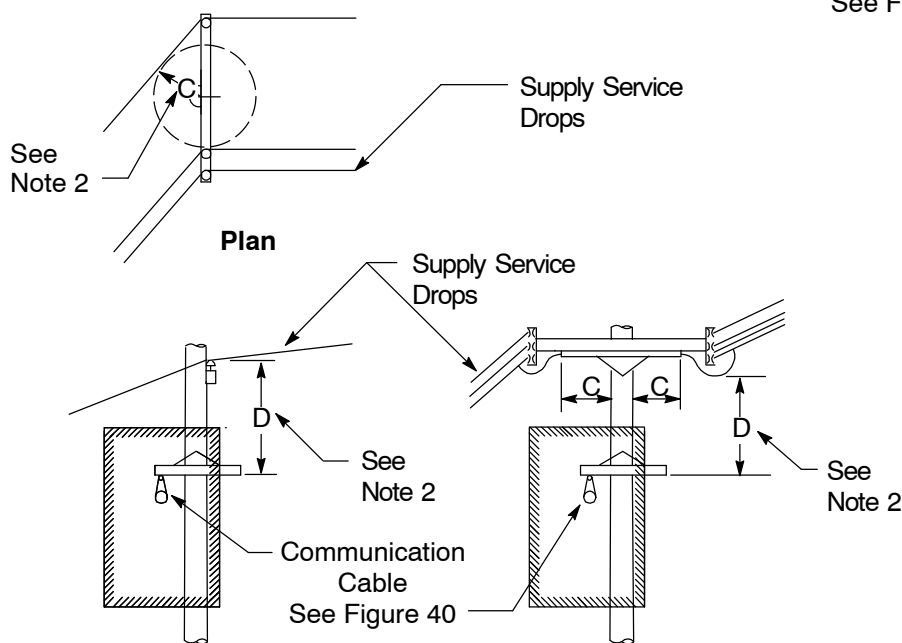
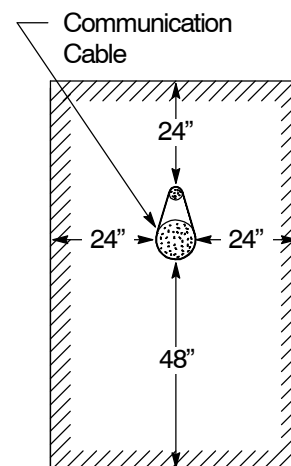

Figure 38
Figure 40
2. In Figure 38, Figure 39, and Figure 40, Dimension D may be less than 48" if C is 25" or more, but shall not be less than 24". If C is less than 25" (15" minimum), then D must be 48" or more.